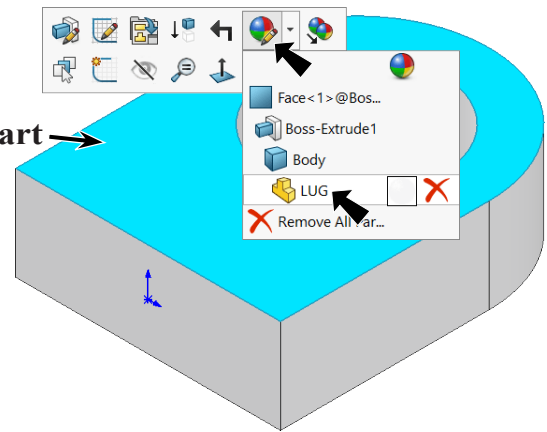

Fig. 13
Step 2. Click part, click **Appearance Callout**  on the context toolbar and click **LUG** , Fig. 13.